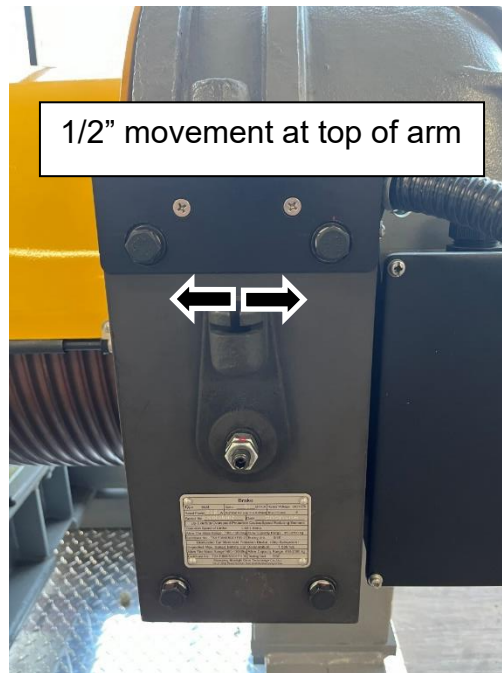

Figure 13
- Manual release arm “free travel is factory set to 1/2” both directions. See Figure 13.